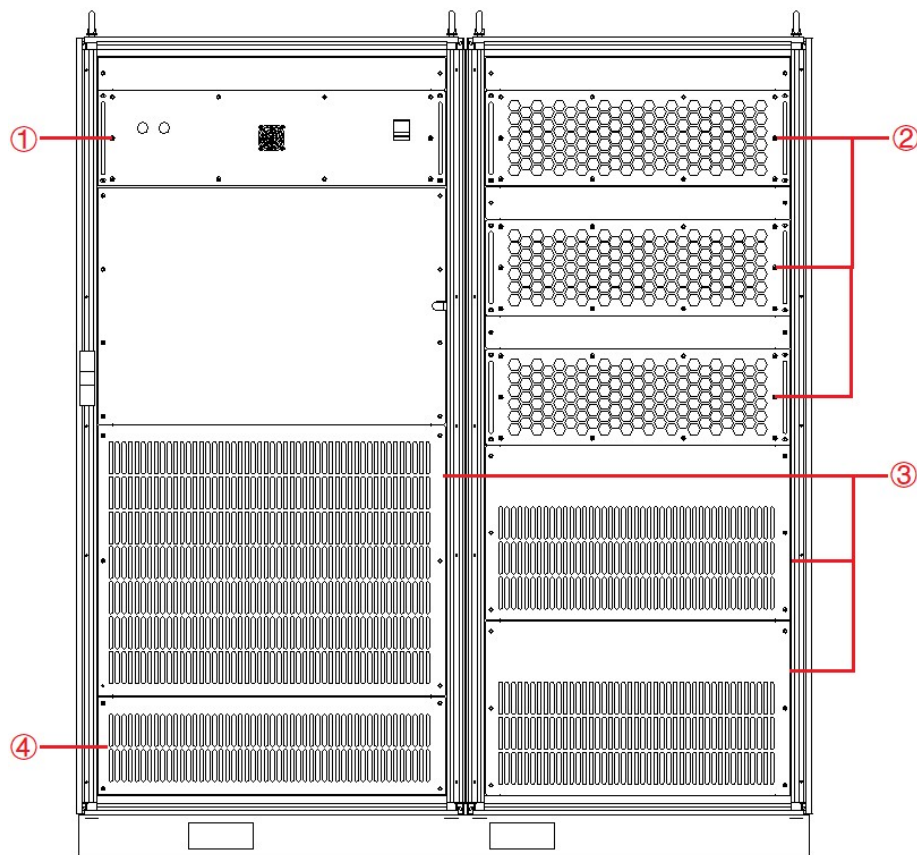

Figure 1-4 Internal structure
As shown in Figure 1-4, take ESA 200-300-300 as an example, from top to bottom, the internal modules of ESA series are: ①Control module, ②Power module, ③Main input/output components, ④Input/Output wiring terminals and other interfaces.